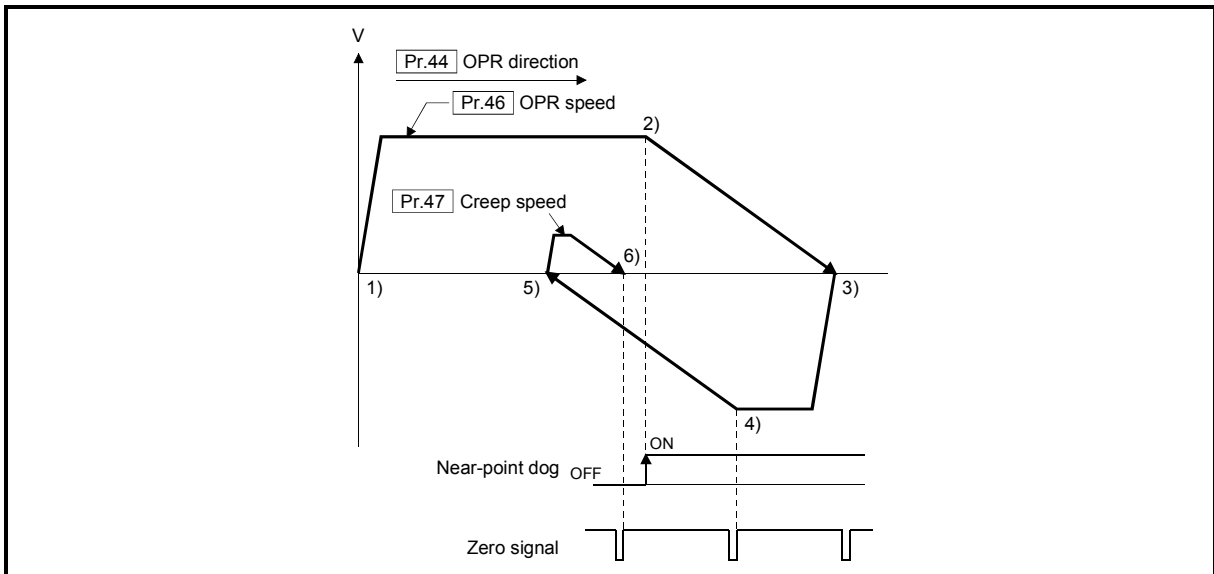

Fig. 8.12 Operation when the zero signal is detected again during deceleration with detection of zero signal
- (3) When the stop signal stops the machine OPR, carry out the machine OPR again. When restart command is turned ON after the stop signal stops the OPR, the error "OPR restart not possible (error code: 209)" will occur.
- (4) The OPR retry will not be performed regardless of setting set in "[Pr.48] OPR retry" in the scale origin signal detection method. When a hardware limit switch is detected during machine OPR, the error "Hardware stroke limit (+) (error code: 104)" or "Hardware stroke limit (-) (error code: 105)" will occur.
- (5) Position the near-point dog forward to overlaps with the hardware limit switch in direction of OPR. When the near-point dog is in the opposite direction against of OPR from the machine OPR start position, the error "Hardware stroke limit (+) (error code: 104)" or "Hardware stroke limit (-) (error code: 105)" will occur.
- (6) When the zero signal is detected again during deceleration ( 4) of Fig. 8.12) with detection of zero signal, the operation stops at the zero signal detected lastly to complete the OPR.